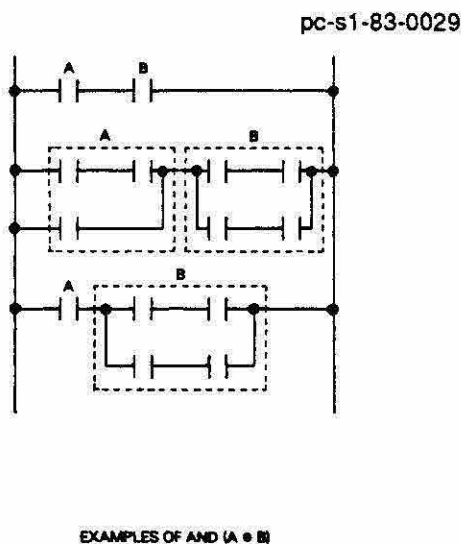

Figure 4-2. Series Logic (AND)
- AND** Places logic such as two contacts or two groups of contacts in series (see figure 4-2). Power flow must be possible through both elements before it will be passed to the next element.